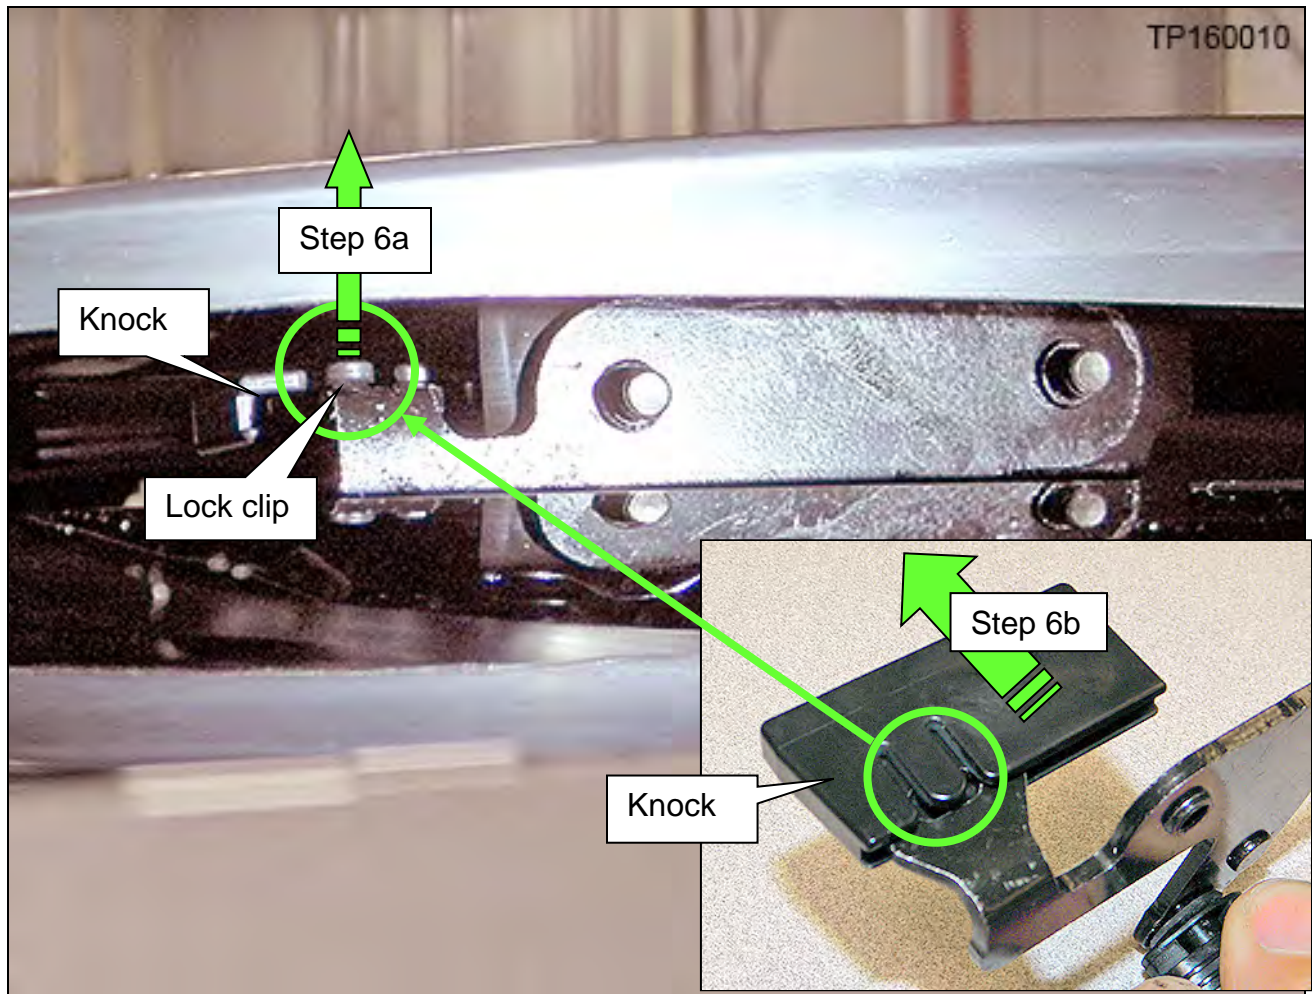

Figure 9
6. Remove the affected knock(s) (Figure 9).